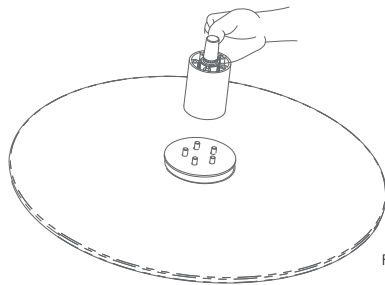

Fig. 2
STEP 2: Place the top disk plate (D) on top of the disk base chair. Position swivel center (A) on top of the plate as shown in fig. 2.